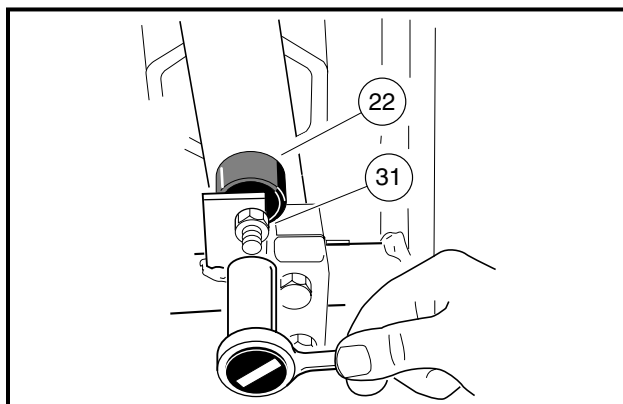
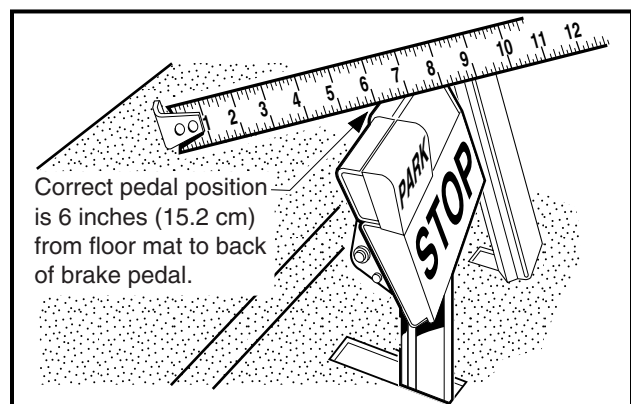

Figure 5-24 Brake Pedal Height Adjustment
Figure 5-25 Brake Pedal Height Measurement
- 2.3. Loosen the brake stop jam nut (31), then relieve pedal pressure on the stop by pushing down slightly on the pedal. Next, adjust the brake stop bumper (22) up or down (**Figure 5-24, Page 5-17**). Adjusting the bumper upward decreases distance between pedal and floorboard. Adjusting the bumper downward increases distance between pedal and floorboard. Proper brake pedal height is 6 inches (15.2 cm) (**Figure 5-25, Page 5-17**).
- 2.4. Tighten the jam nut (31) to 8 ft-lb (9.5 N·m) (**Figure 5-24, Page 5-17**).
- 3.1. Measuring perpendicular from the floorboard to the back of the brake pedal, press the brake pedal and measure the distance that the pedal moves before all of the slack is taken out of the brake cables (**Figure 5-25, Page 5-17**).